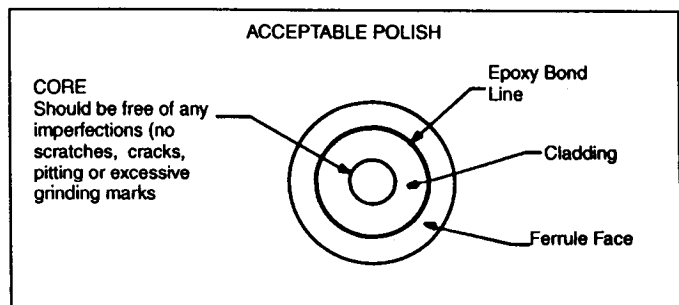

Figure 1
23. Polish terminus until an optically acceptable fiber end has been produced, approximately 1 minute. (See Figure 1). If a small amount of epoxy is on the polished surface, continue polishing until no epoxy can be seen with the naked eye. Inspect end of the optical fiber for desired finish by examining it with the Fibroscope* portable microscope or other microscope. Repeat polishing if required.
28. Using a circular motion of approximately 2 inches in diameter, polish terminus on 1 micron lapping film backed by a smooth hard surface, approximately 40-50 seconds. If a small amount of epoxy is on the polished surface, continue polishing until no epoxy can be seen with the naked eye. Inspect end of the optical fiber for desired finish using a microscope. (See Figure 1). Repeat for other termini. (For an exceptionally fine finish, continue polishing terminus for 20-30 seconds using .3 micron lapping film. Thoroughly clean termini before proceeding with this step).